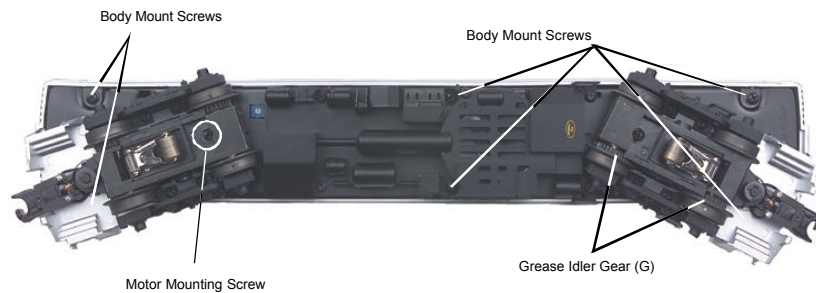

Figure 3
1. To access the gear box, remove the cab from the chassis by unscrewing the chassis screws as seen in Figure 3 and lifting the cab from the chassis.